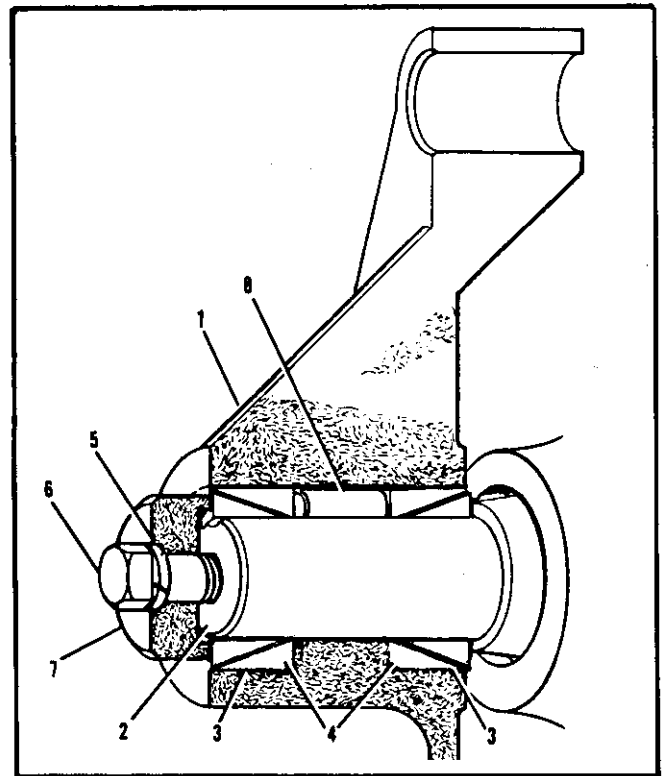

Figure 3-7. Gripspring Installation
- i. Install gripsprings, refer to Figure 3-7, as follows:
- (1) Install smaller gripspring (3) on shaft (2) with beveled edge out.
- (2) Position larger gripspring (4) over gripspring (3) so that the beveled edges meet.